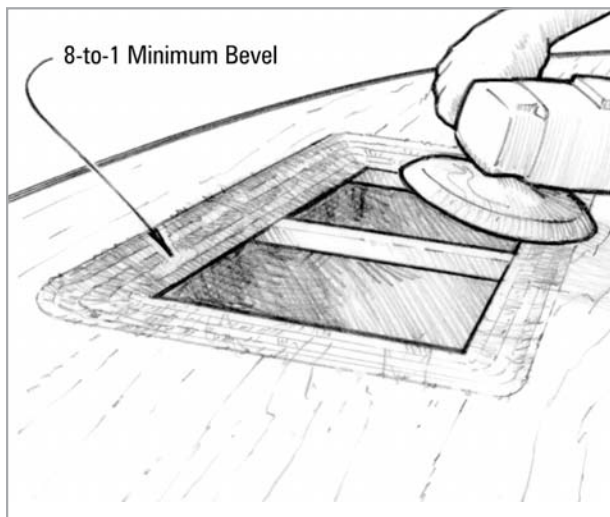

Figure 5-12 Cut out the damaged area and grind a minimum 8-to-1 bevel on all sides of the opening.
- a. Grind a scarf on the edges with a disc sander (*Figure 5-12*). Grind a minimum 8-to-1 bevel back from the edges of the opening. (If the panel plywood is 1/2" thick, the bevel should extend at least 4" from the edge of the hole on each side.)